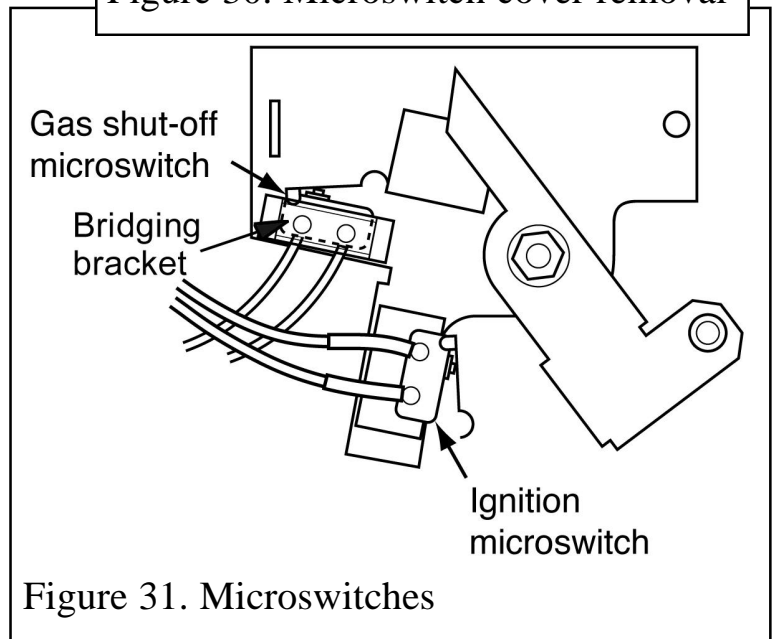

Figure 31. Microswitches
3. Disconnect the leads from the ignition microswitch (The lower of the two microswitches - See figure 31).
2. Detach the microswitch cover by removing one screw and pulling clear of the location lug (See figure 31).
4. Detach the bridging bracket, microswitch assembly by removing two screws (See figure 31).